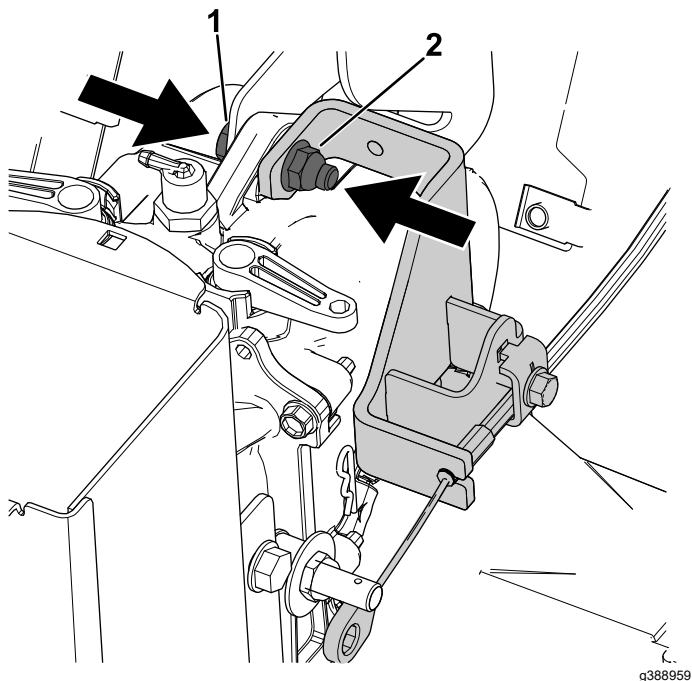

Figure 15
- A. Secure the top of the hydrostatic drive support to the hydrostatic drive assembly and hydrostatic drive bracket with the new bolt (5/16 x 1-1/4 inch) and locknut (5/16 inch) (Figure 15).